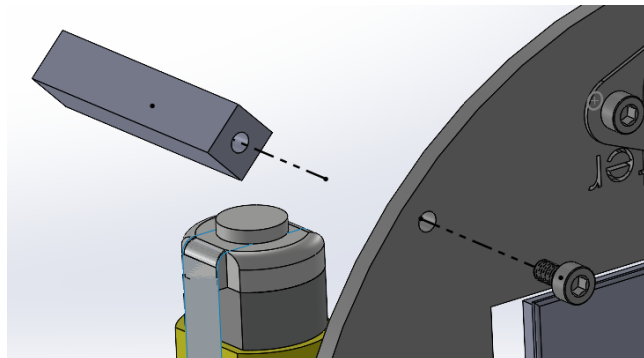

Figure 10: Connect one standoff to the robot bottom chassis with an 8 mm M3 screw
Figure 10 shows an example of connecting one standoff to the robot bottom chassis.
15. Use the four screws to attach the robot upper chassis to the four standoffs. Make sure the text is aligned so that the words Lily $\infty$ Bot are above each other facing the same direction. Figure 10 shows the attachment of the four screws to the robot.